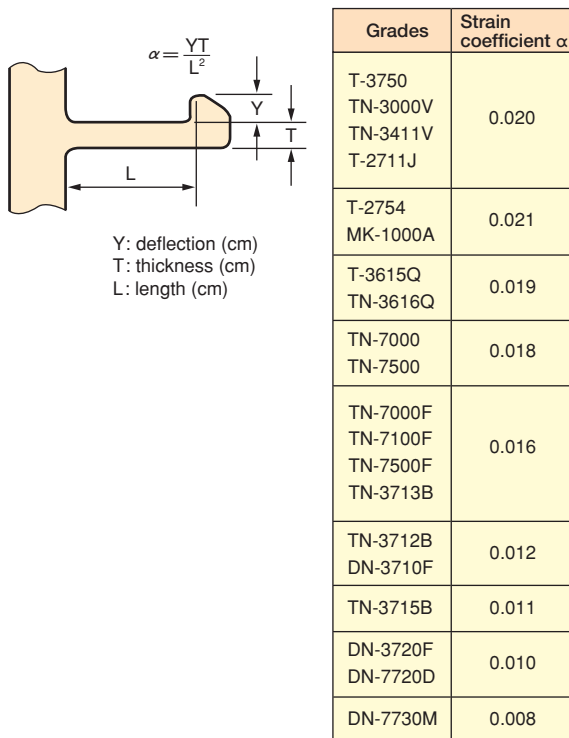

Fig.14 A Standard Snap-fit Joint
Bring deformation after assembly to nearly nothing (zero) so that the coefficient of strain α by the deformation (Y) on assembly may become lower than values shown here. The strain coefficient α relating to deformation on assembly can be obtained from the structural formula for a cantilever beam (Fig.14). Each corner must be rounded enough to prevent cracking caused by stress concentration.